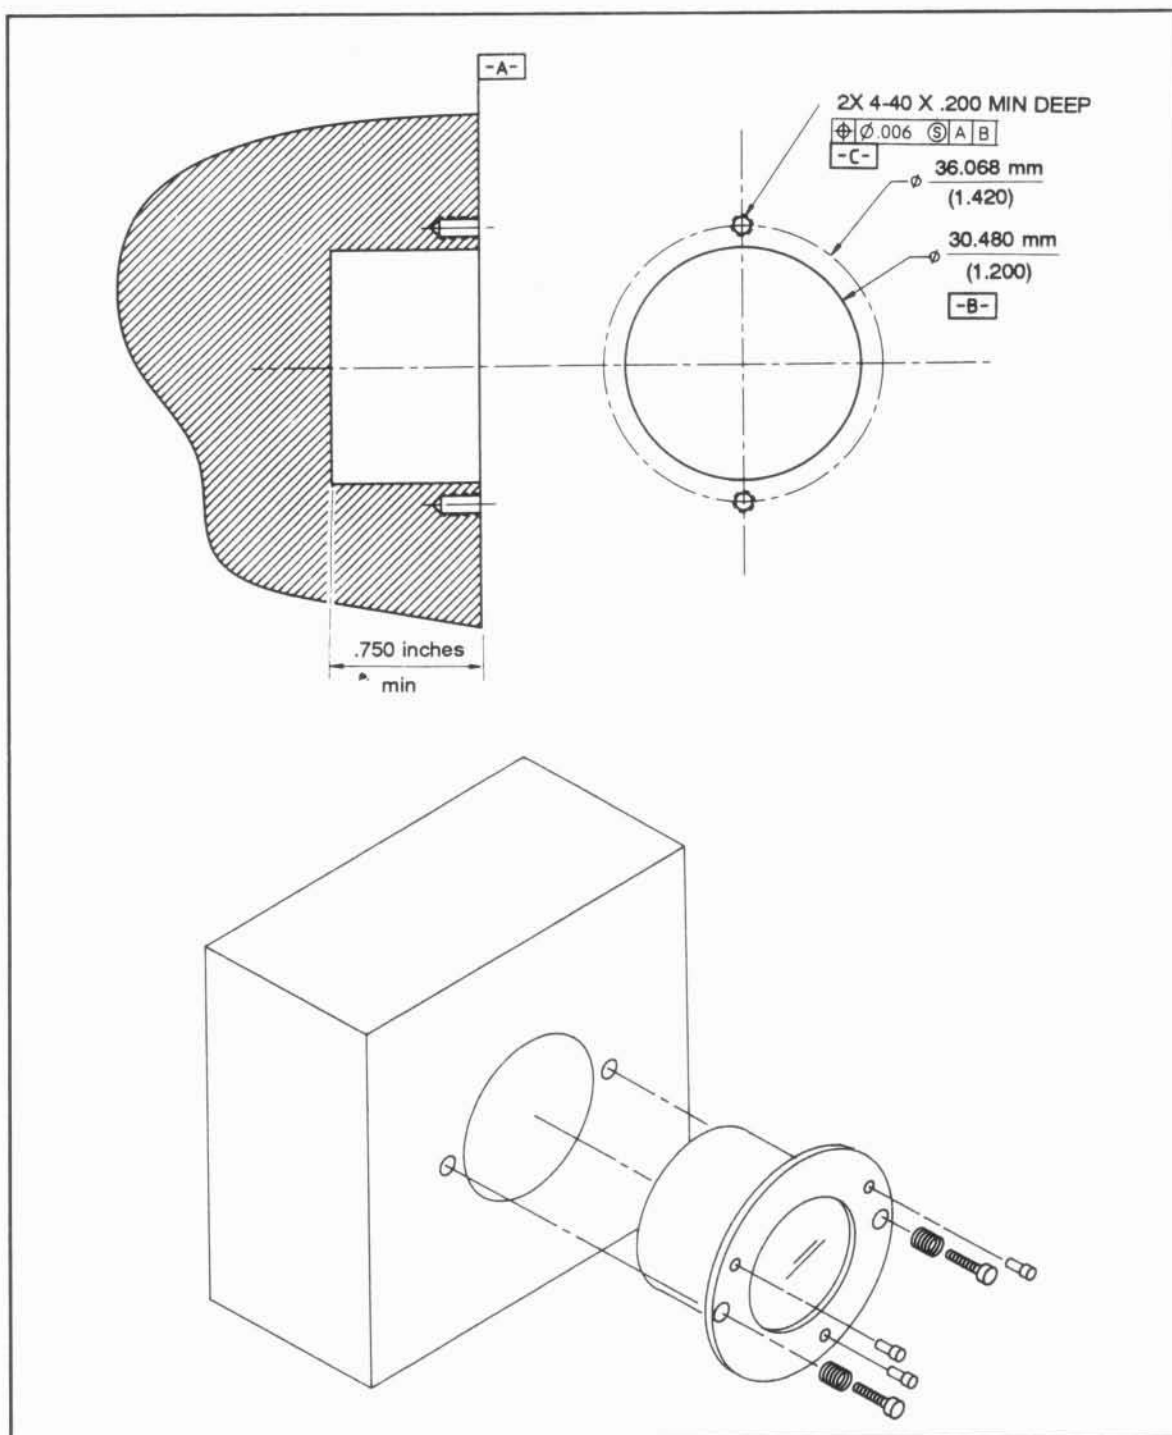

Figure 6-54. HP 10724A Mounting Requirements and Installation Drawing
The HP 10724A is designed to be mounted into a hole or pocket on the stage (moving object). The mounting surface which is machined to accept the HP 10724A should be closely perpendicular to the axis of machine travel. Figure 6-54 shows the mounting hole details. Provision is made to lift the flange slightly off of the mounting surface thereby allowing pitch and yaw corrections to be made to align the HP 10724A exactly perpendicular to the axis of machine travel.
- b. Insert the labeled end (non-flange end) of the HP 10724A into the mounting hole or pocket. Start the two #4-40 cap screws through the compression springs and the clearance holes in the flange and then into the mounting surface. (See Figure 6-54.)